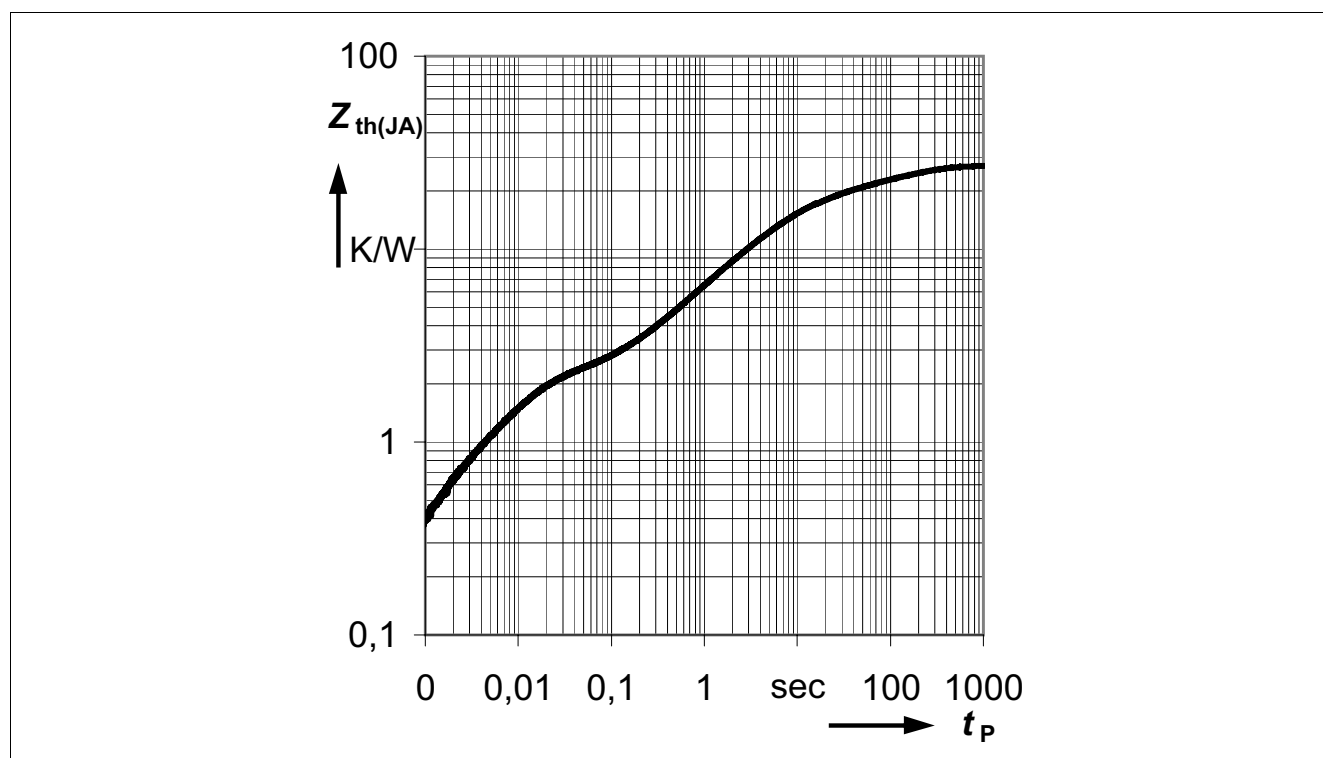

Figure 4 Transient Thermal Impedance $Z_{th(JA)} = f(t_p)$ ⁴⁾
4) Specified R_{thja} value and Figure 4 are according Jedec JESD51_7 at natural convection on FR4 2s2p board. The BTS50060-1EGA was measured on a 76.2 x 114.3 x 1.6 mm board with 2 inner copper layers (2 x 70µm Cu, 2 x 35µm Cu) applying power losses of 1.4W at the channel. According to JESD51-5 a thermal via array under the exposed pad contacted the first inner copper layer. $T_a = 25\text{ °C}$.
Figure 4 shows the typical transient thermal impedance of BTS50060-1EGA.